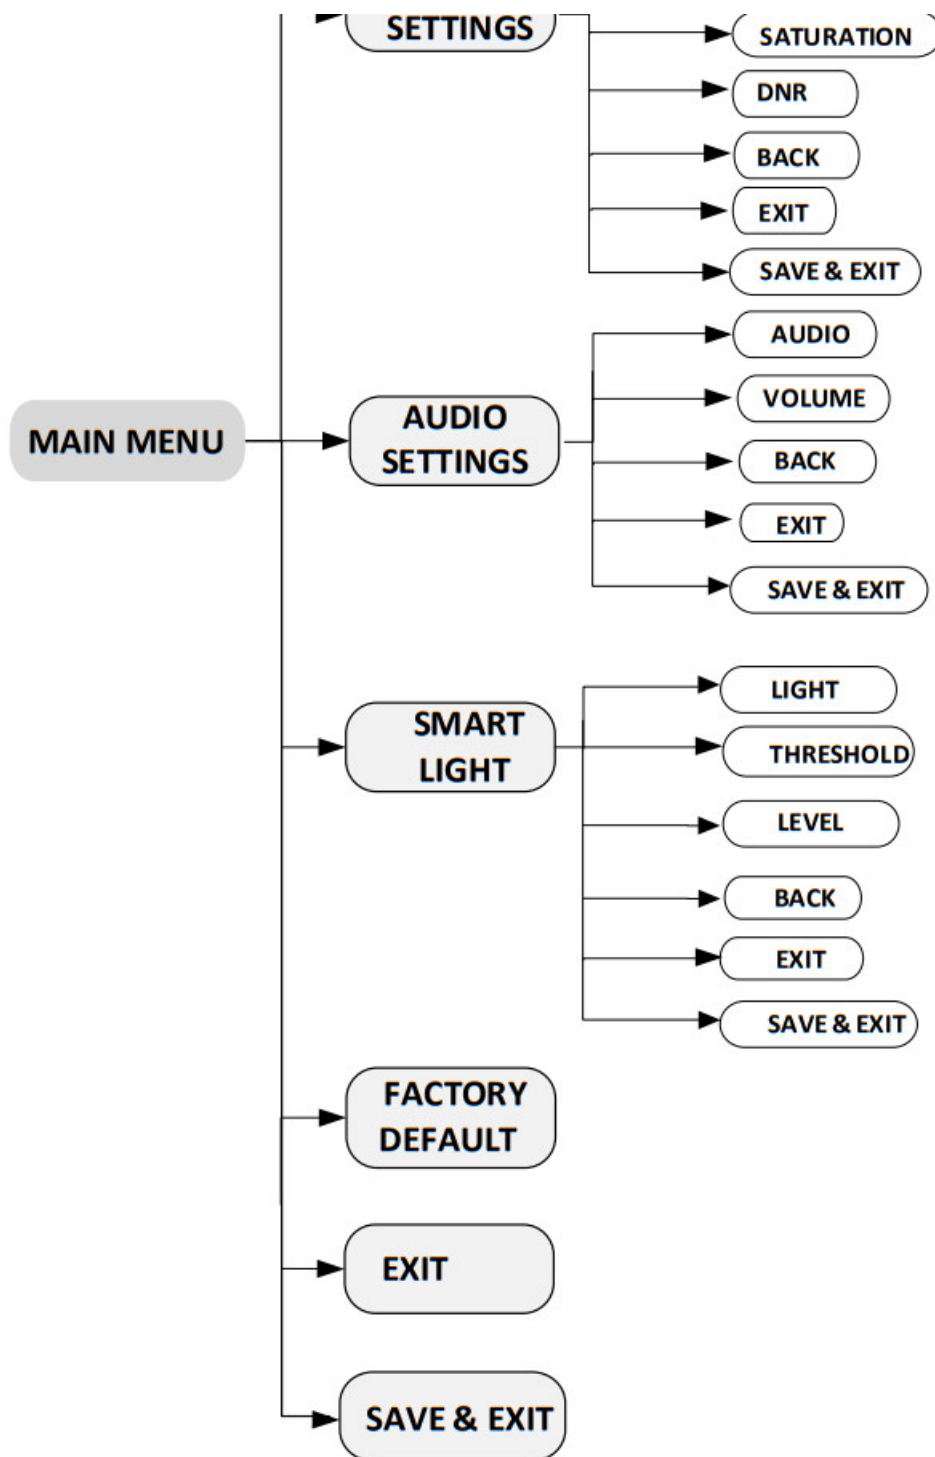

**Figure 3-1 Connection**
1. Connect the camera with the TVI DVR and the monitor, as shown in figure 3-1.